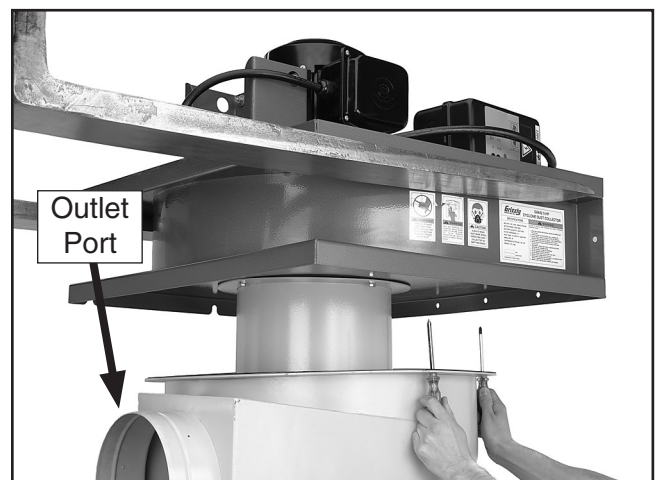

Figure 20. Aligning the mounting holes.
3. Using two punches or Phillips screwdrivers as alignment guides (see **Figure 20**), lower the blower housing assembly onto the intake barrel assembly.